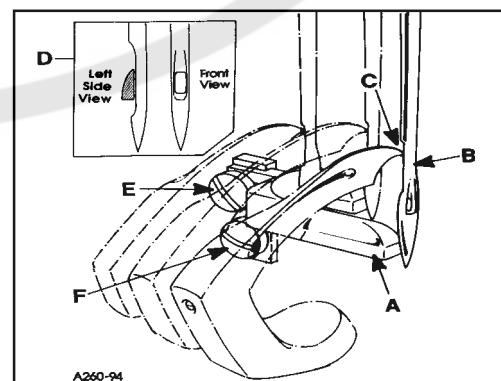
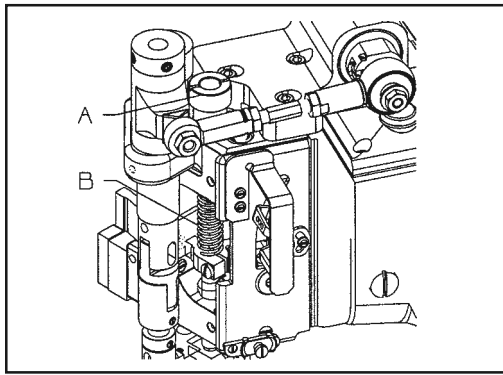
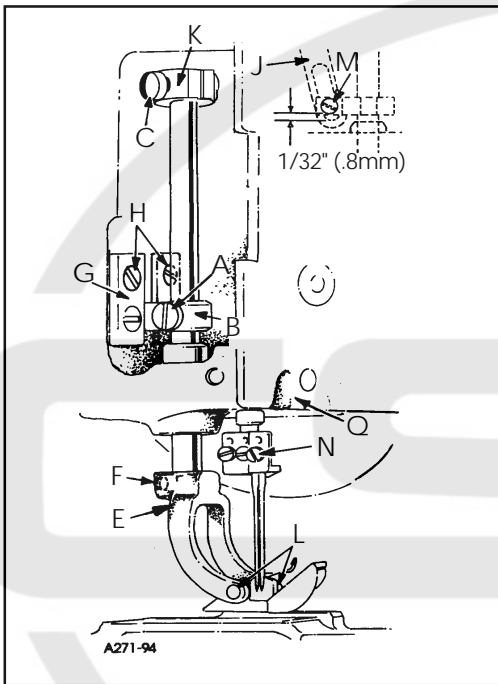

FIG. 13
FIG. 14
FIG. 15
Set the rear needle guard (A, Fig. 13) horizontally so that it barely contacts needles (B) when at its extreme forward position. If adjustment is necessary loosen screw (E) and move guard front to back as required. It should be set vertically as low as possible, yet have its guarding surface in contact with the needles until the points of the loopers (C), moving to the right, are even with the right side of the needles. If adjustment is necessary loosen screw (F) and move guard and holder up or down as required.
NOTE: When installing the needle it should be parallel with the eye in line of feed. If adjustment is necessary, loosen screw (N, Fig. 15) in needle head and rotate needle to attain adjustment (D, Fig. 13).
Remove presser bar knob (A, Fig. 14) and spring (B). Loosen screw (A, Fig. 15) on presser bar guide (B). (Loosen screws (C) in upper stop collar for pneumatic machines only). Slide presser bar upward high enough to slip on presser foot yoke (E) with foot attached and tighten screw (F) on flat of presser bar. Position foot so that the needle holes in the foot line up with the holes in the throat plate. Tighten screw (A)
Presser foot guide plates (G, Fig. 15) should be set so that entire presser foot and bar assembly has free movement up and down with no left to right movement.
Reinstall presser bar spring (B, Fig. 14) and knob (A), with presser foot resting on throat plate.
The presser foot should be adjusted to be 1/8" (3.17mm) above the throat plate before the feed roller mechanism begins to rise. Loosen screw (A, Fig. 15) in presser bar lifter and guide (B, Fig. 15), raise or lower guide as required to attain the specified point at which the feed roller begins to rise. Retighten screw (A) and maintain needle settings.
NOTE: There should be a minimum 1/32" (0.8mm) clearance between screw (M, Fig. 15) and the bottom of the slot in link (J).
Regulate the pressure on the presser foot by turning the presser spring regulating knob (A, Fig. 14) located on top of pressure foot spring (B).
To remove just the presser foot, remove screws (L, Fig. 15) and replace foot, retighten screws (L).